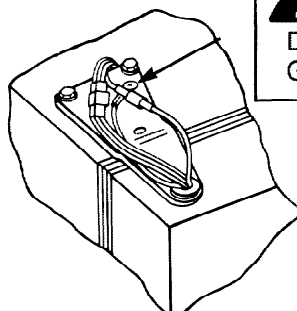

FIGURE 13
4. Disconnect top hinge freezer door wires. See Figure 13.